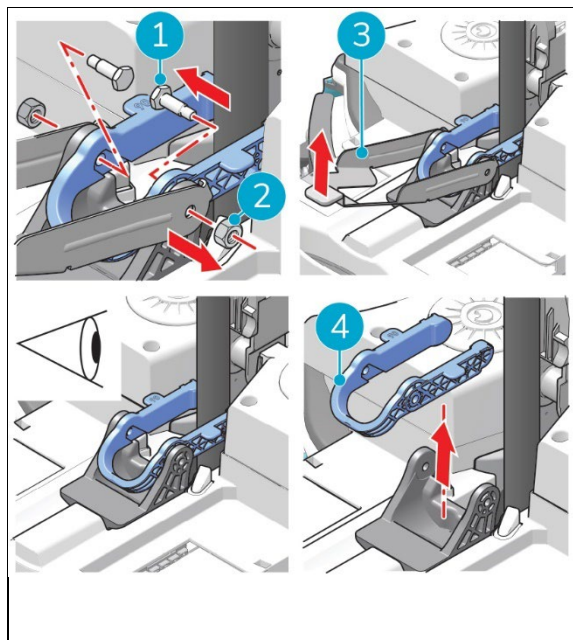

Figure 14
8. Remove the nuts (Figure 14, pos 1) from the bolts (Figure 14, pos 2).